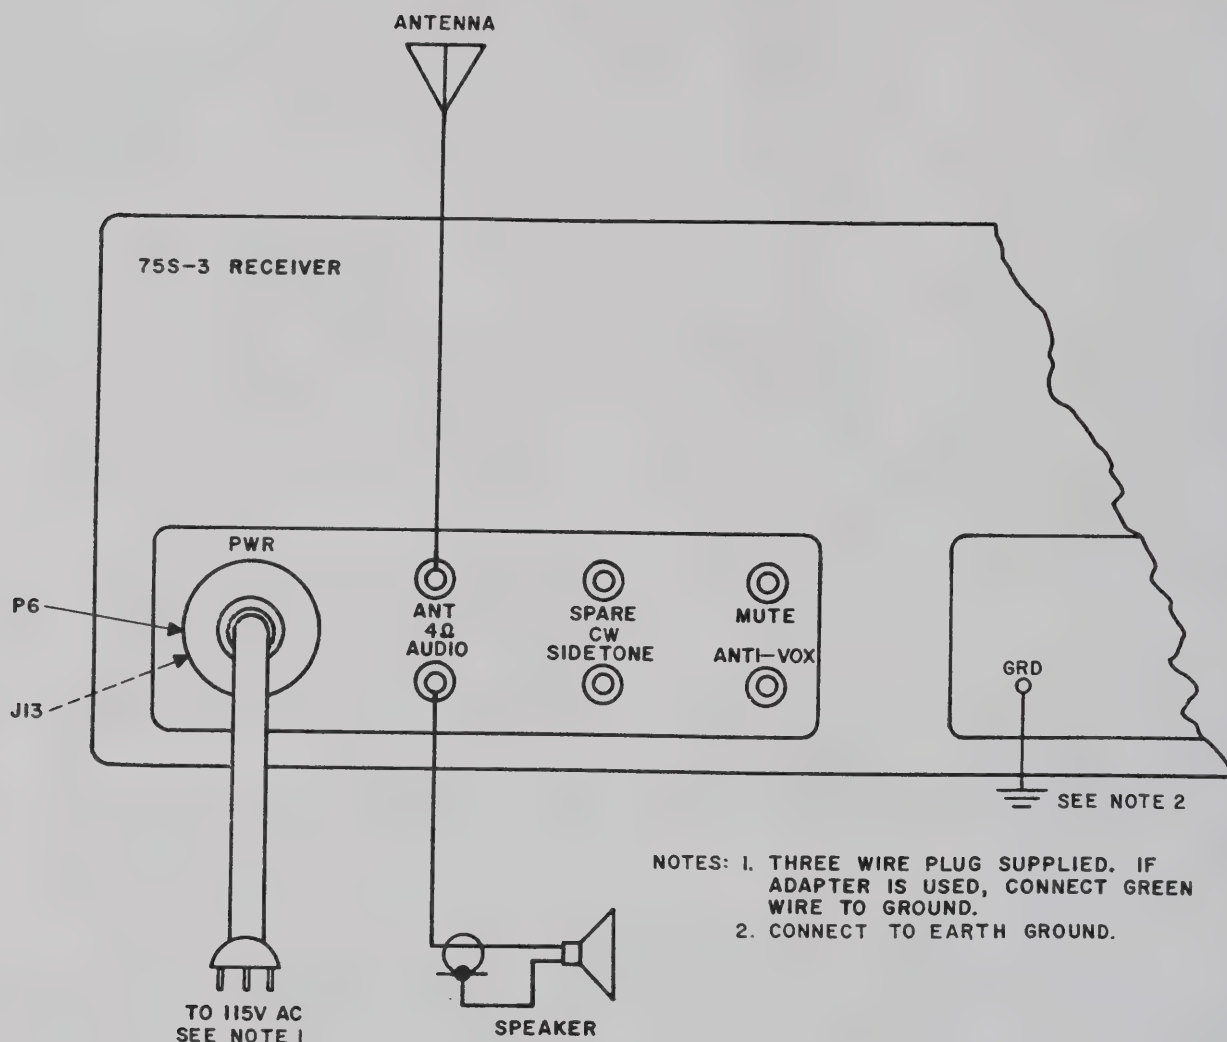

Figure 1-1. External Connections
1.2.1 EXTERNAL CONNECTIONS. Figure 1-1 shows the location of jacks for external connections to 75S-3 and 75S-3A receivers. The power cable plugs into socket J13. The ANT jack is a nominal 50-ohm antenna input. The 4  $\Omega$  AUDIO jack is for connection of a speaker.